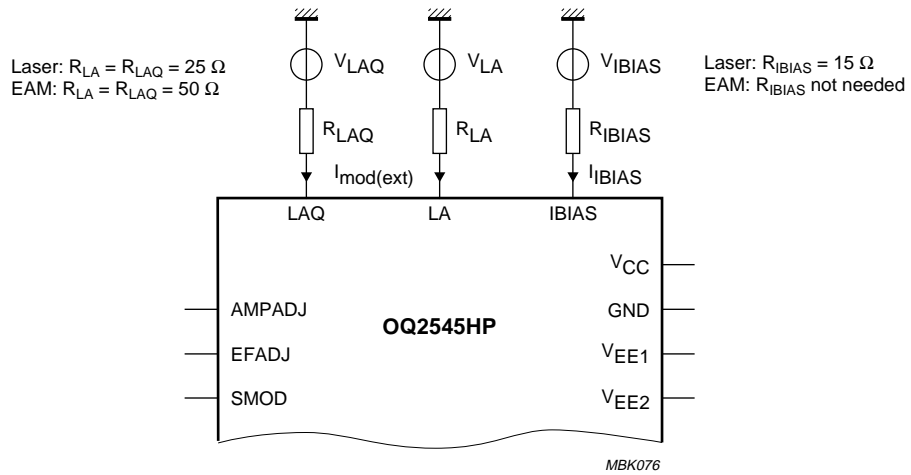

Fig.3 Load dependent power consumption of the OQ2545.
Power consumption due to the laser/EAM modulation current equals $I_{MOD} \times (V_{LA} - |V_{EE2}|)$, where V_{LA} is the minimum voltage at pins LA and LAQ. V_{LA} depends on the external laser/EAM supply voltage and forward voltage drop. V_{LA} can be lowered further by adding additional external resistance as shown in Fig.3. The minimum V_{LA} voltage required for proper operation of the IC can be found in Chapter "Characteristics". A similar argument is valid for power consumption due to the bias current.
1. With reference to Fig.3:
2. With reference to Fig.3: